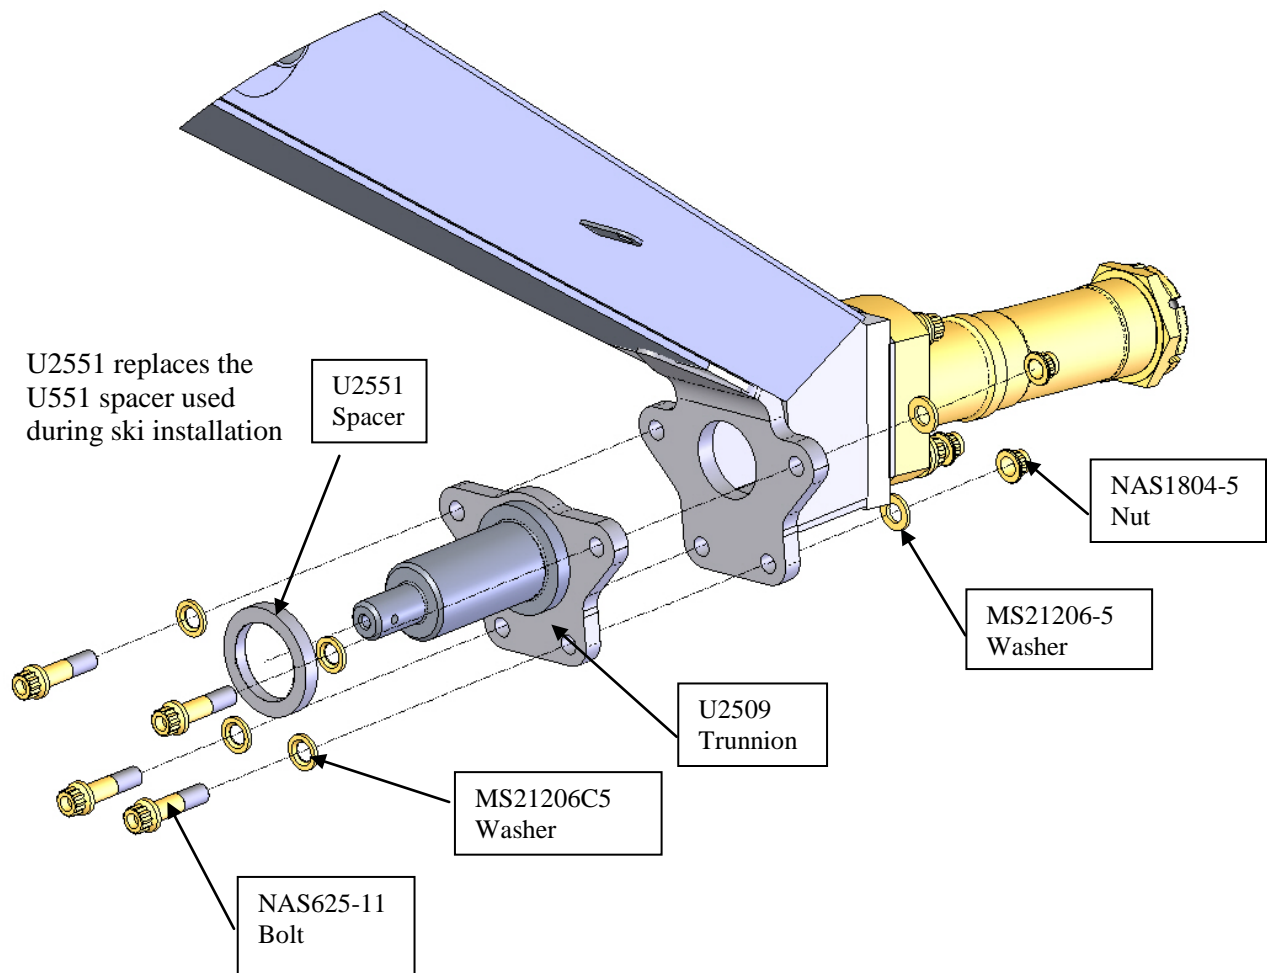

Figure 2 Ski Trunnion Installation
1. Install ski trunnion per Figure 2.